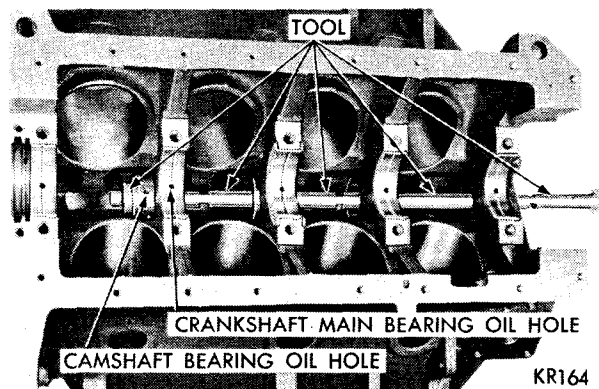

Fig. 25—Removing Camshaft Bearing
(1) With engine completely disassembled, drive out camshaft rear bearing welch plug.
(2) Install proper size adapters and horse shoe washers (part of Tool C-3132A) at the back of each bearing to be removed and drive out bearings (Fig. 25).
The oil holes in camshaft bearings and the cylinder block must be in exact register to insure proper lubrication (Fig. 25).